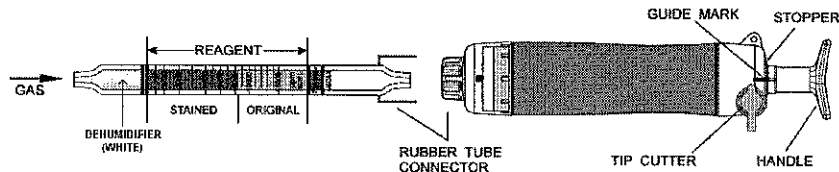

Fig.1
- ② Insert the detector tube into the aspirating pump securely as shown in Fig.1. (Arrow mark shall point to the pump.)
- ③ Align the guide marks on the shaft and stopper of the aspirating pump.
- ④ Pull the pump handle at a 1/2 pump stroke (to 50mL line) until it locks and wait for 45 seconds or until the completion of sampling is confirmed with the flow indicator of the pump (See descriptions about the flow indicator in the instruction manual of the pump).
- ⑤ On completion of sampling, read the scale at the maximum point of the stained layer.
- ① Temperature; Correct the tube reading by following temperature correction table.